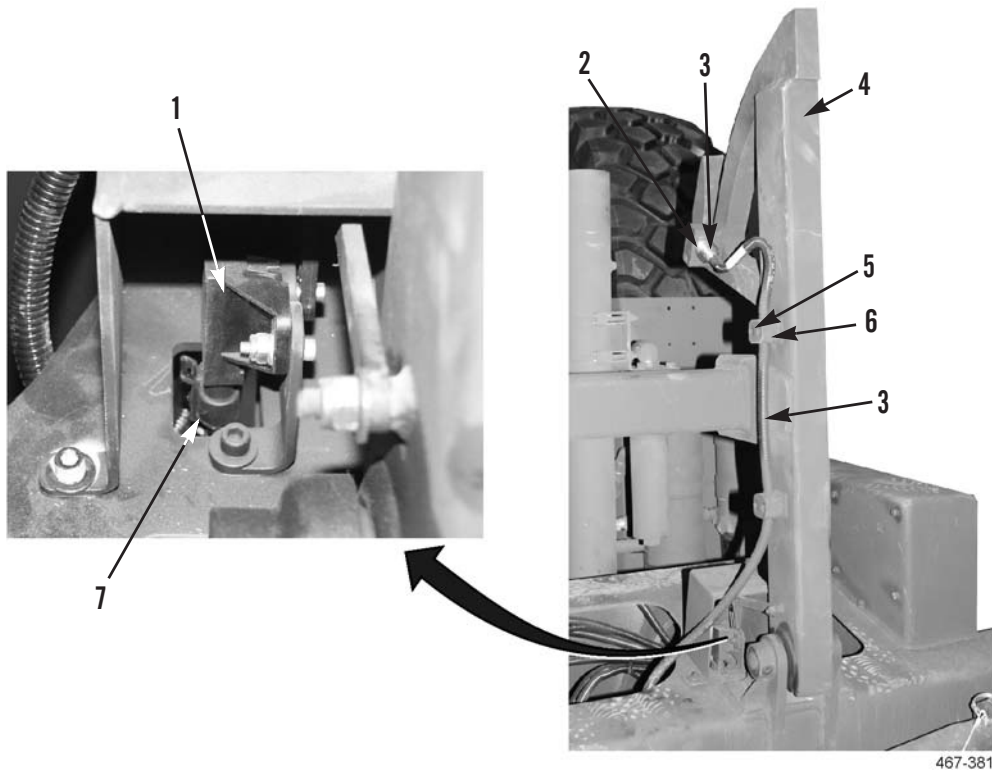

Figure 20. Stowage Guide and Angle Sensor Installation.
3. Connect stowage angle sensor harness (Figure 20, Item 7) to stowage angle sensor (Figure 20, Item 1).
4. Install stowage guide sensor harness (Figure 20, Item 3), two cable clamp caps (Figure 20, Item 6), and four bolts (Figure 20, Item 5) on stowage guide (Figure 20, Item 4).
5. Connect stowage guide sensor harness (Figure 20, Item 3) to stowage guide sensor (Figure 20, Item 2).